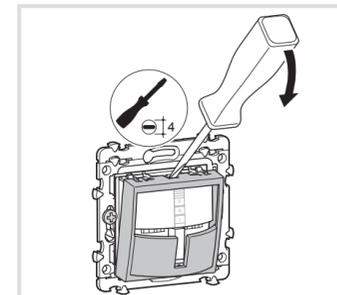

Figure 8: Dismantling of cover
- Remove cover carefully with a flat-bladed screwdriver (Figure 8).
The detection angle can be restricted for the right side and for the left side via each adjuster (Fig. 8, 9) between 45° ... 90°. Thus, the detection angle can be between 90° and 180° (Fig. 5).
- To do this, set the response brightness potentiometer (Fig. 8, 10) to TEST.
- Turn the delay time potentiometer (Figure 8, 11) to the desired position.